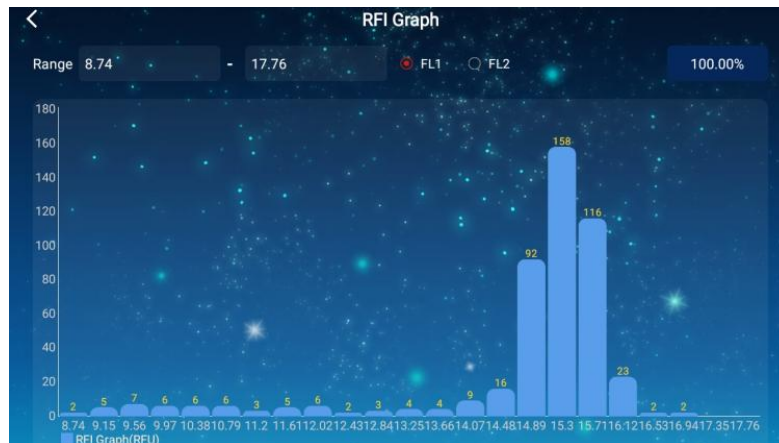

Fig. 2.34 Relative Fluorescence Intensity distribution histogram
- ✦ **RFI Graph:** In case the user has executed an experiment with a BioApp to detect a fluorescent sample, he can view a Relative Fluorescence Intensity (RFI) distribution histogram on currently selected sample ID (see Fig. 2.34). It shows the range of Relative Fluorescent Intensity Units (RFU) on the x-axis and determined cell counts corresponding to the particular RFUs on y-axis. In this diagram, too, the user has the option to modify the range of RFU to have a proportional view on those cells within the pre-